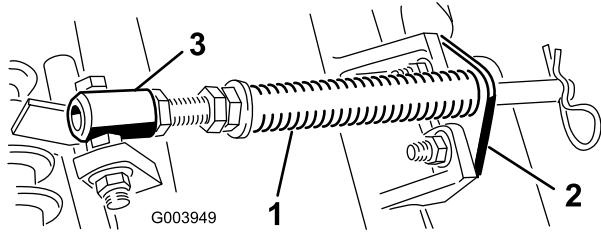

Figure 4
- A. Remove the 2 carriage bolts and nuts securing the rod bracket to the cutting unit tabs (Figure 4).
- A. Remove the flange nut securing the spring tube bolt to the carrier frame tab (Figure 4). Remove the assembly.
- C. Mount the spring tube bolt to the opposite tab on the carrier frame and secure with the flange nut. The bolt head is to be positioned to the outer side of the tab as shown in Figure 4.